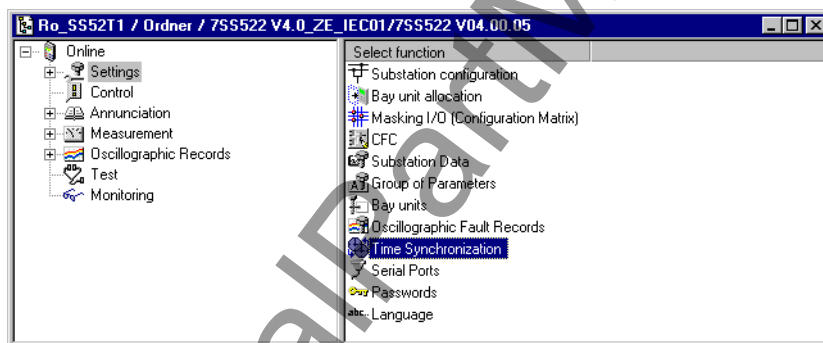

Figure 6-26 Selecting the time synchronization function
- ❑ If you want to change the time offset or the tolerance time of the clock signal in the event of a fault, click **Settings** (Figure 6-26, page 234). The setting groups are shown in the function selection.